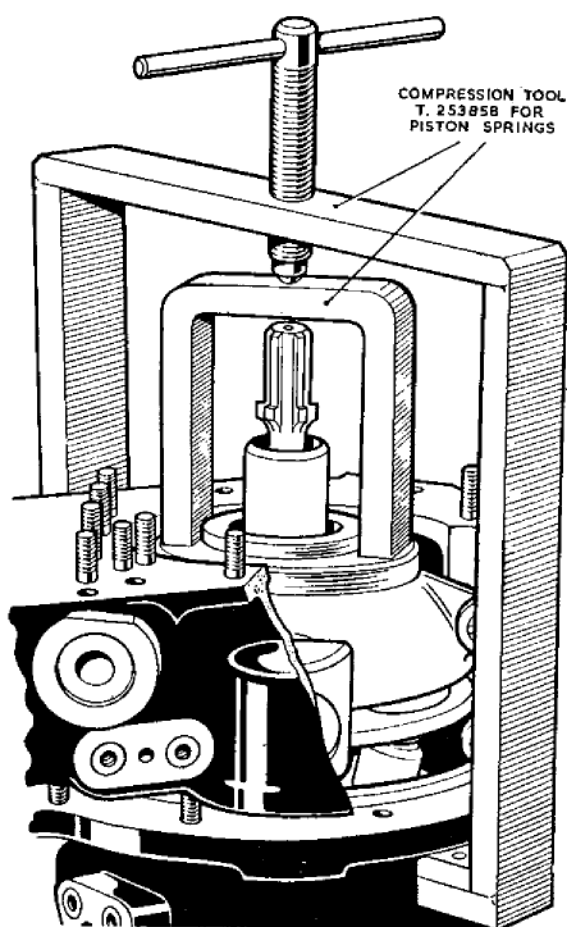

Fig. 8. Compressing the piston springs
38. Fit clamp tool T.253858 (fig. 8) over the splined rotor shaft and press down firmly to compress the piston springs and lock; remove the locking screws, tool T.206867. Remove the clamp tool.
39. The camplate assembly, with the rotor, can now be removed from the pump body as one unit. Remove both the trunnion blocks (42) and the camplate (44). Place the rotor (81) on retaining stand, T.201745 and remove the pistons (74), placing each in turn on stand T.201746.
40. Lift the auxiliary camplate (43), thrust ball (41), shims (77), spring